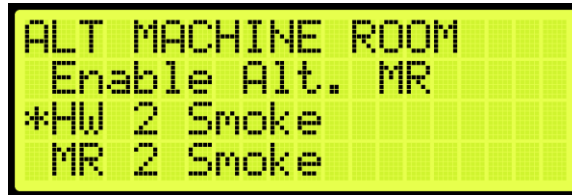

Figure 610: ALT MACHINE ROOM Menu – HW 2 Smoke
3. From the ALT MACHINE ROOM menu, scroll and select HW 2 Smoke (See Figure 610).